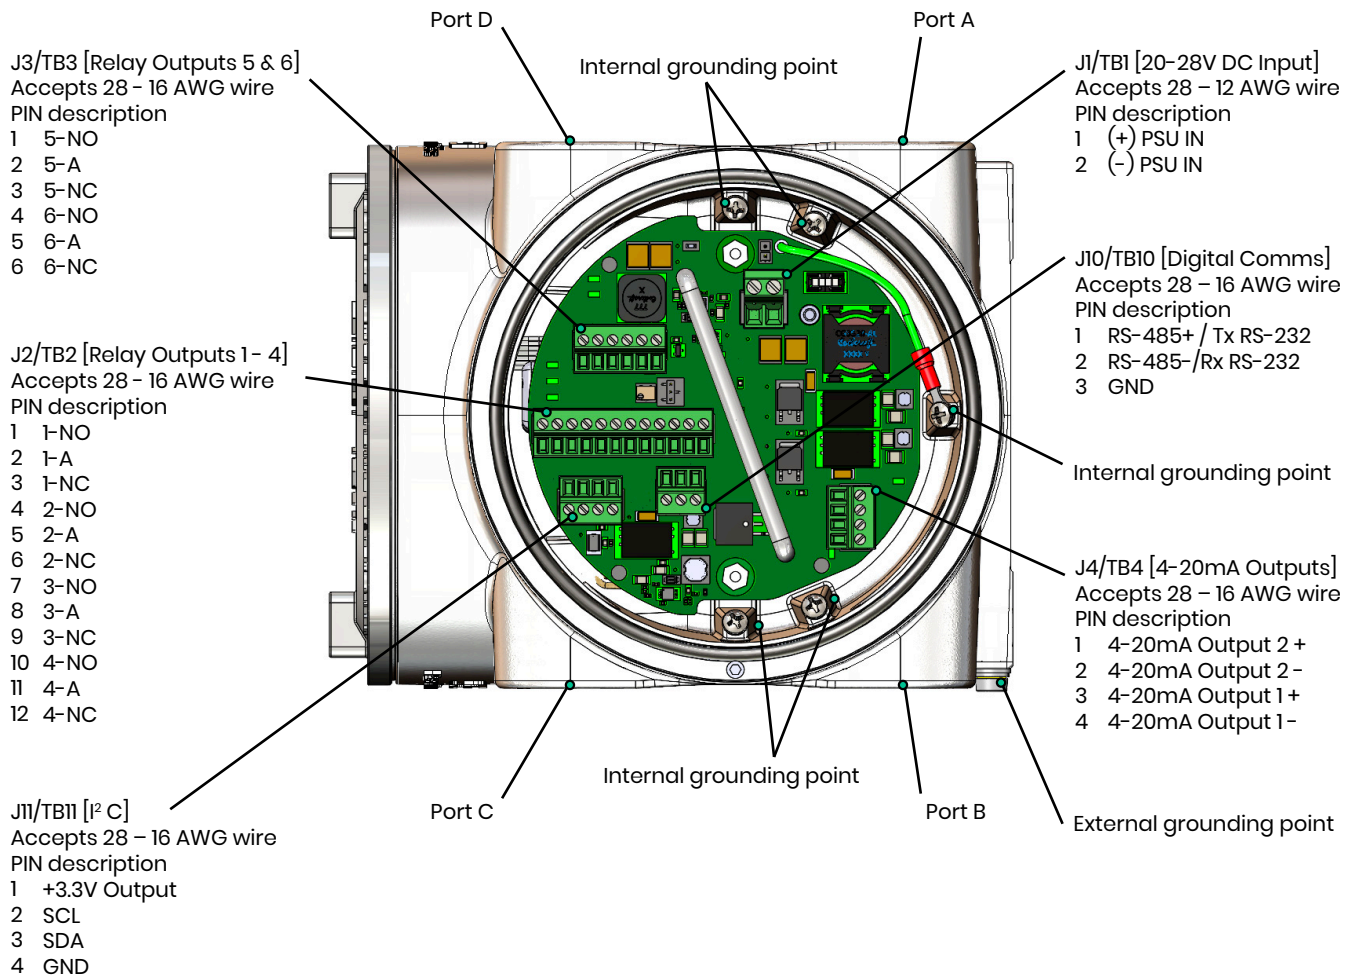

Figure 8: Wiring Diagram
Refer to *Figure 8* for port location and *Table 1* for PSU cable length requirements:
The 24 VDC power input, 4-20 mA analog outputs, relay outputs and digital comms outputs wiring connections are made to terminal blocks TB1, TB2, TB3, TB4, and TB10 inside the XMTCpro enclosure (see *Figure 8*). To access this terminal block, loosen the locking screw and remove the cover from the analyzer. Then, refer to *Figure 8* for the location and pin designations of terminal blocks TB1, TB2, TB3, TB4, and TB10.
4. Connect the appropriate leads per the wiring diagram in *Figure 8*.